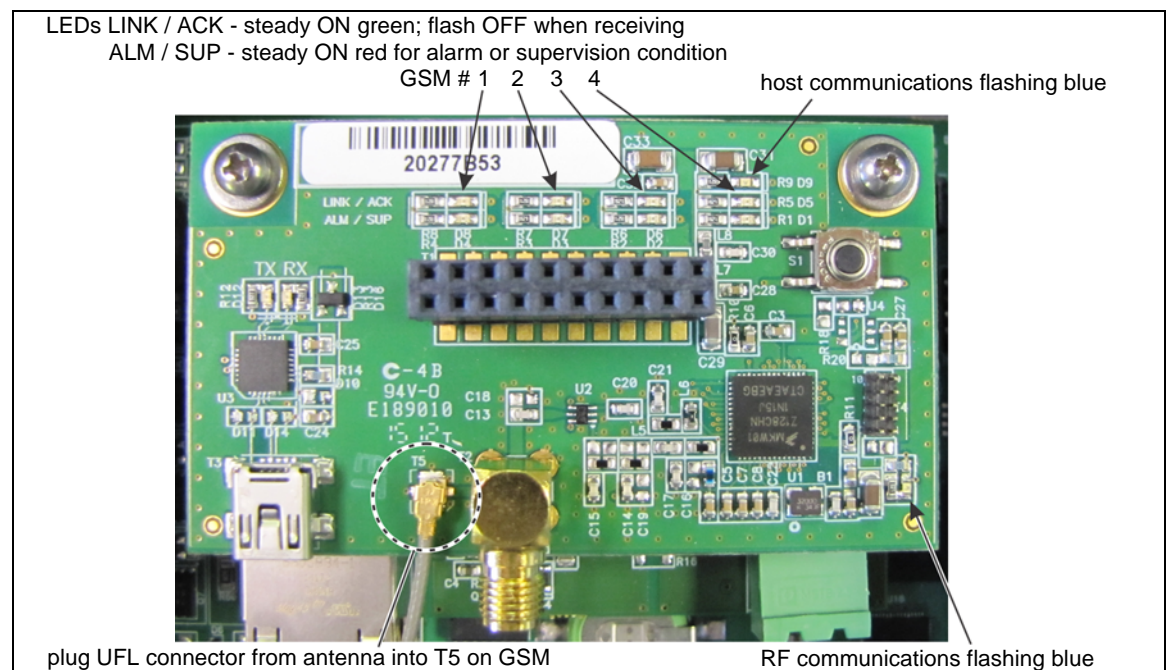

Figure 2 GSM LEDs & antenna connection
The GSR mounts onto the expansion header (T2) on the FlexZone processor, either by piggy-backing onto the network interface card (NIC) or directly onto the header if the processor does not include a NIC. The FlexZone processor powers and communicates with the receiver through the expansion header. Figure 2 illustrates the LED indicators and the antenna connection for the GSR.
3. Connect the antenna to the receiver (see Figure 2).
4. Connect the antenna to the receiver (see Figure 2).
6. Connect the UFL connector on the antenna wire to T5 on the receiver (see Figure 2).